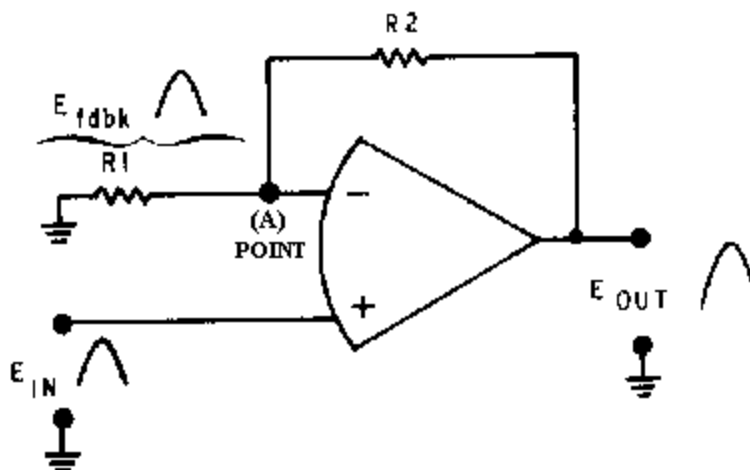

Figure 3-16.—Noninverting configuration.
Figure 3-16 shows a noninverting configuration using an operational amplifier. The input signal (E_{in}) is applied directly to the noninverting (+) input of the operational amplifier. Feedback is provided by
- Q-26. *In a circuit such as that shown in figure 3-16, if R1 has a value of 50 ohms and R2 has a value of 250 ohms and the input signal has a value of +10 millivolts, what is the value of the output signal?*